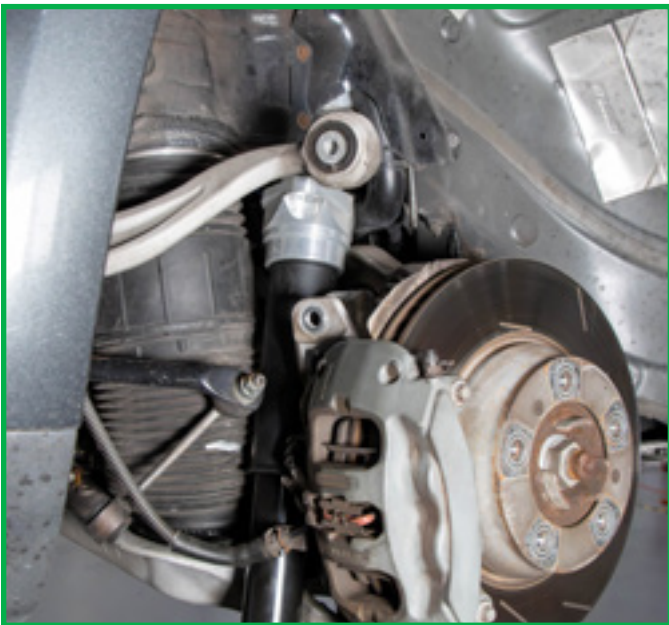

FIGURE 17
1. Position the shock by carefully raising it between the brake line and lower control arm. (Figures 17, 18)